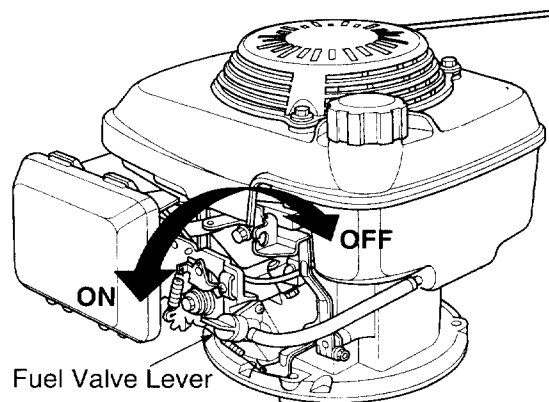

Figure 10
- Make sure the fuel valve lever found on the left side of the engine is in the ON position. See Figure 10.